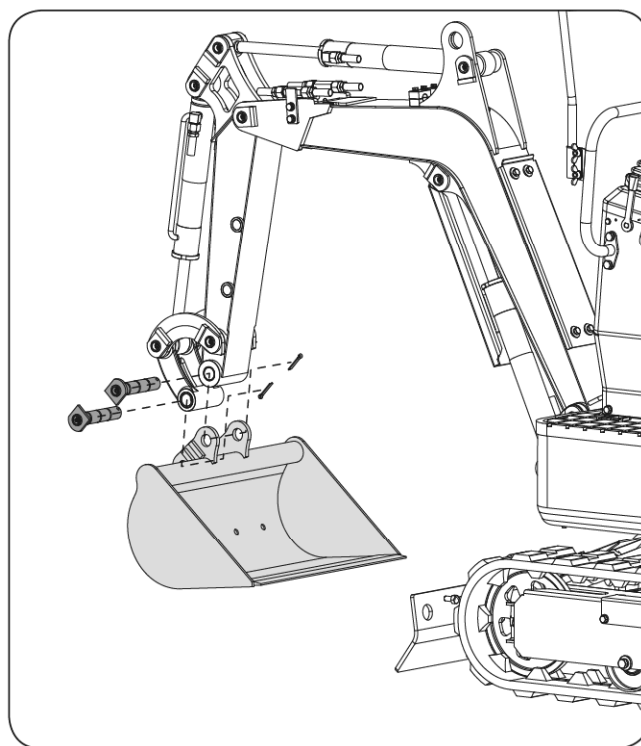

Figure 118
2. Mount the grading bucket onto the machine with the removed pins from the first step. (See **Figure 118**)